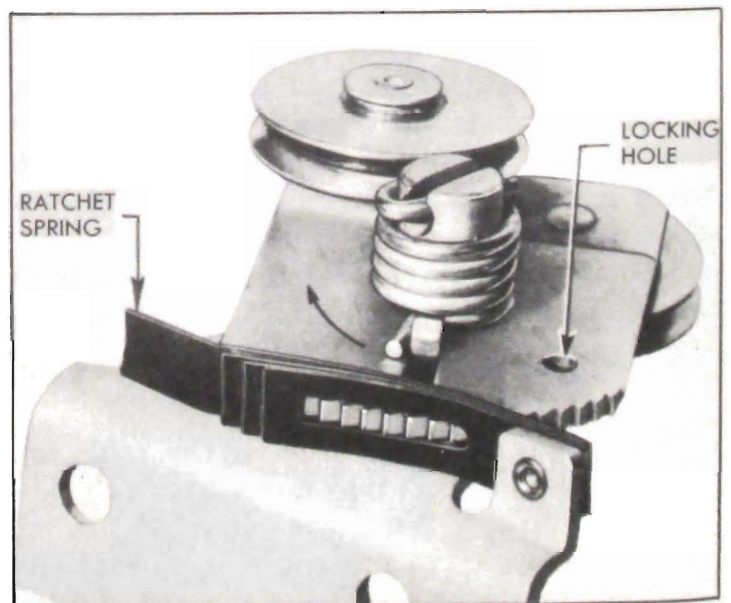

Figure 13-26—Cable Tensioner—1949 Series 50-70
1949 Series 50-70 windshield wiper cables do not require adjustment as each cable tensioner automatically keeps all slack out of cables by means of a spring and ratchet. See figure 13-26.
4. Apply slight pressure to cable tensioner ratchet spring, then rotate upper section until a $\frac{1}{8}$ " pin can be inserted through the holes in upper and lower sections to remove spring pressure from the cables. See figure 13-26. Disconnect cables from wiper driver shaft lever.